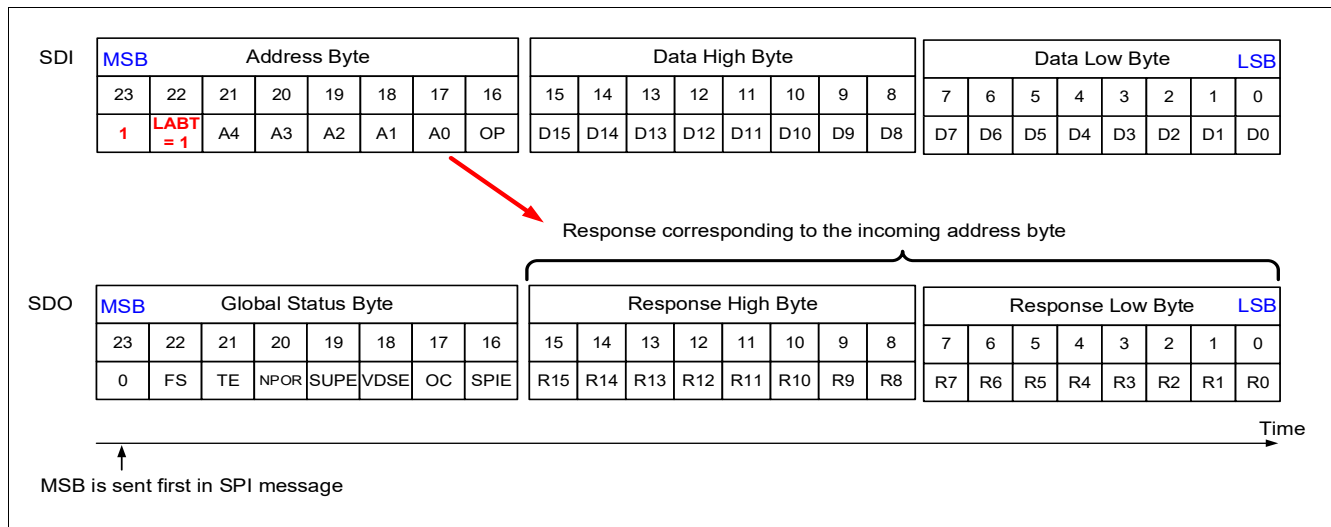

Figure 8 In-frame response with individual slave selection
The address byte specifies (see Figure 8):
1) OP bit is the least significant bit of the address byte, see Figure 8